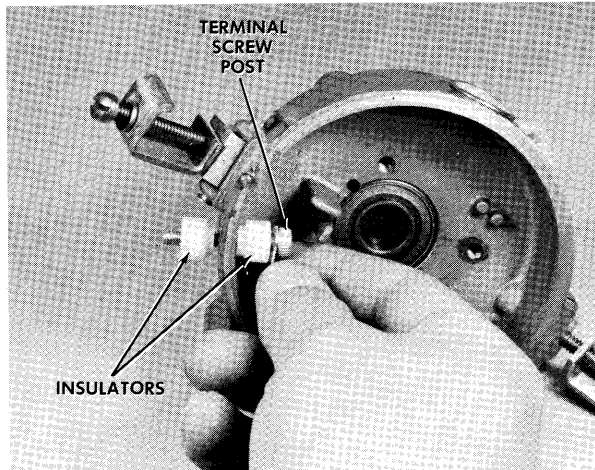

Figure 8 – Removing Terminal Screw Post
- C. Remove terminal screw post and insulators as shown in figure 8.
- B. Install terminal screw post and insulators on distributor housing. See figure 8.
- E. Install interlock cam on distributor housing and secure with two (2) screws. Adjust interlock cam as outlined in appropriate tune-up section.